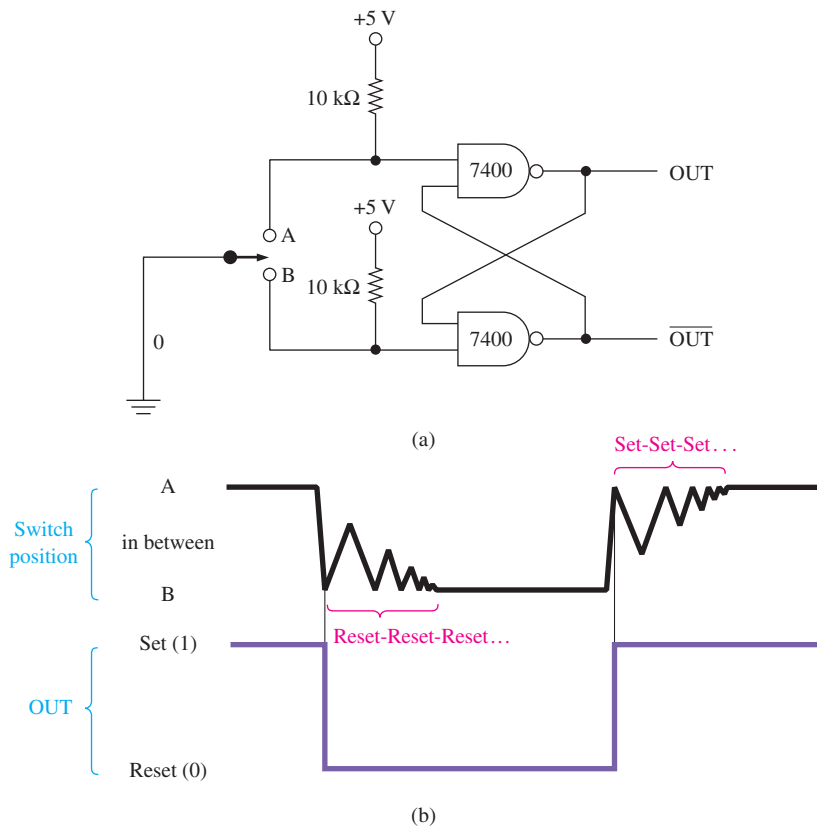
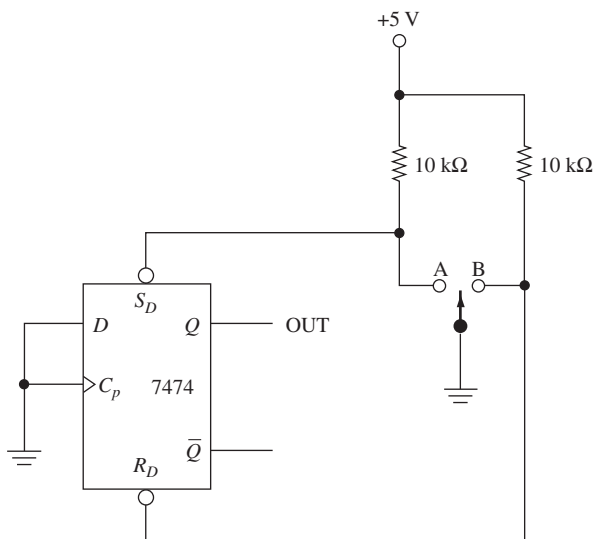

Figure 40 (a) Cross-NAND method of debouncing a single-pole, double-throw switch and (b) waveforms for part (a).
Figure 41 *D* flip-flop method of debouncing a single-pole, double-throw switch.
To debounce single-pole, double-throw switches, a different method is required, as illustrated in Figures 40 and 41. The single-pole, double-throw switch
shown in Figure 40(a) actually has three positions: (1) position A, (2) in between position A and position B while it is making its transition, and (3) position B. The cross-NAND debouncer works very similarly to the cross-NAND *S-R* flip-flop.
Figure 41 shows another way to debounce a single-pole, double-throw switch using a 7474 *D* flip-flop. (Actually, any flip-flop with asynchronous \overline{S}_D and \overline{R}_D inputs can be used.)
The waveforms created from Figure 41 will look the same as those in Figure 40(b). As the switch is moved to position A but is still bouncing, the flip-flop will Set, Hold, Set, Hold, Set, Hold repeatedly until the switch settles into position A, keeping the flip-flop Set. When it is moved to position B, the flip-flop will Reset, Hold, Reset, Hold, and so on until it settles down, keeping the flip-flop Reset.
By the way, how do we know what size **pull-up resistors** to use in circuits like the one in Figure 41? Remember, the object of the pull-up resistor is to keep a terminal at a **HIGH** level when it would normally be at a **float** (not 1 or 0) level. In Figure 41, when the switch is *between* points A and B, current will flow down through the 10-k Ω resistor to \overline{S}_D . I_{IH} for \overline{S}_D is 80 μA . This causes a voltage drop of $80 \mu\text{A} \times 10 \text{ k}\Omega = 0.8 \text{ V}$, leaving 4.2 V at \overline{S}_D , which is well within the HIGH specifications of the 7474.
Determine the power dissipation of the 10-k Ω pull-up resistors used in Figure 40(a). Also, determine the HIGH-level voltage at the input to the NAND gates.